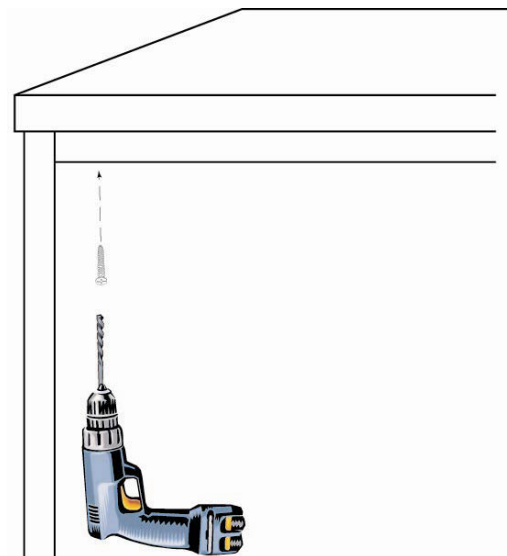

Fig. 1
- Snap each hinge into one of the sets of three holes on the back of the door. (See Fig. 1.) To secure the hinge to the door, turn the fastening screw one quarter turn in the direction shown on the hinge.
1. Upon completing installation of all cabinets, drawers, doors and fixed and adjustable shelving, fasten your counter (1) on top of any base cabinets. (See Fig. 1.)
5. Fasten the counter top to the base cabinets in each corner from underneath using #8 x 1-1/4" wood screws (3). If necessary, pre-drill each screw hole from the inside of each base cabinet. (See Fig. 1.)